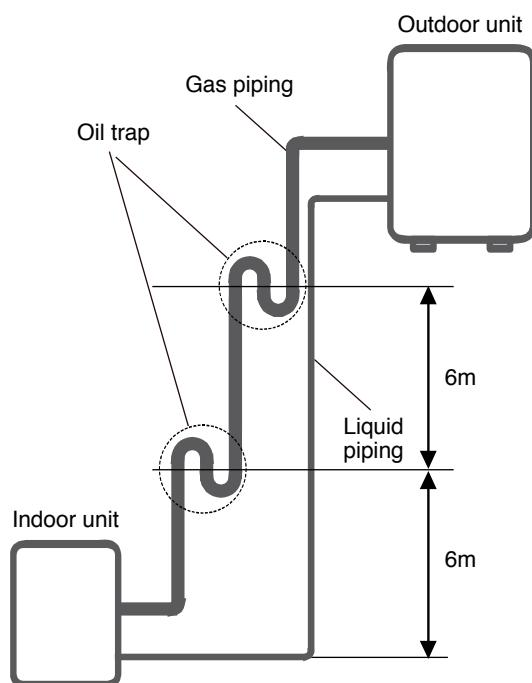

Fig. 7.2
- It is recommended that vertical suction risers not be upsized. Proper oil return to the compressor should be maintained with suction gas velocity. If velocities drop below 7.62m/s (1500fpm (feet per minute)), oil return will be decreased. An oil trap should be installed every 6m of vertical suction line riser. (See Fig. 7.2)